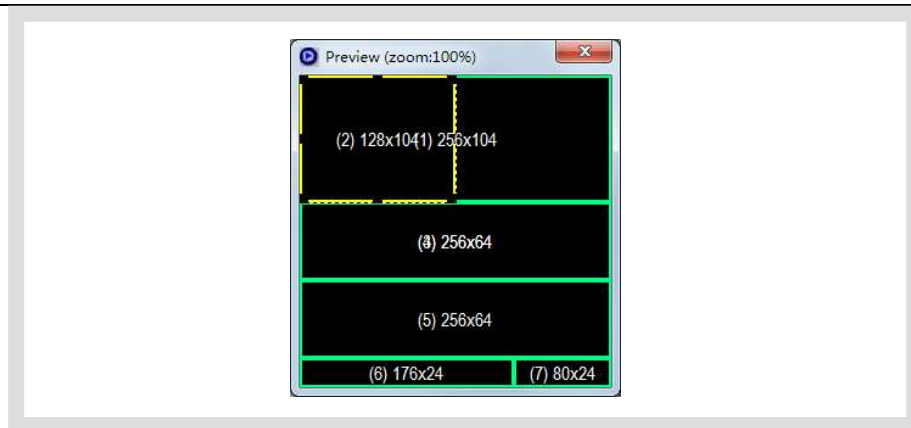

Figure17 Editing of size and position of window in preview window
- Visual interface of **windows** adjusting: when a “**Program**” or “**Window**” is selected in the playbill, the mapping position of each **windows** in current **program** will appear in the preview window. The frame of current **window** is bright yellow while the others are green, as shown in Figure17. The position and size of each **window** can be adjusted freely by use the mouse to drag the black block on the frame.